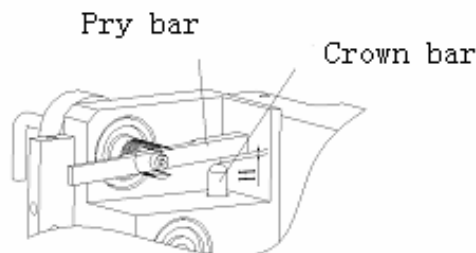
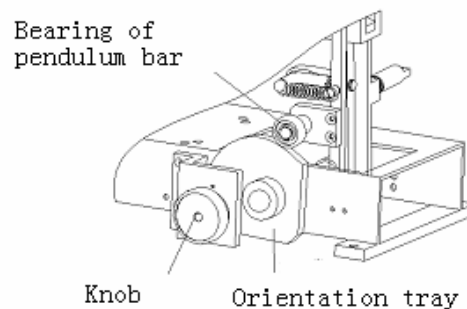

Fig4-7
Fig4-9
1mm bailing strap passes through two strap wheels shown as the Figure and the gap between crown bar and pry bar is 0.3mm (See Fig4-7)
This position is located at front right door. Adjustment of tightness force shown as Fig4-9. Generally knob to adjust strapping force is seized and can't turn. On adjusting strapping force, first forcibly push the knob to the bottom. At this time you can freely turn the knob. The strapping force is decreased while turning knob in clockwise direction and increased in anticlockwise direction. In general, on delivery the position of swing link bearing and orientation tray shown as the left Figure. Generally it is not necessary to adjust their corresponding position.
d. Strap head is split: The reason is that the strapping force is too large. Properly adjust strapping force small (See Fig4-9)
- b. The position of crown bar is too high: If not on strap-withdrawing, the gap between crown bar and pry bar should be 0.3mm (See Fig4-7).
(2) Trouble of pre-strap-feeding mechanism or strap storehouse problem causes small strap storage volume. Find out the trouble and solve it.
- d. Strap head is split: If strap head is split, it will not run smoothly in the strap path and lead to the situation that strap is not fed to the position. The reason is that the strapping force is too large. Therefore properly adjusting strapping force will eliminate this situation (See Fig4-9).
h. Can't strap firmly (See Fig4-6 and Fig4-9):
- ① Strapping adjustment device is at the loose position
- ② Strap-clipping block wears seriously
- ③ Teeth groove in the strap-clipping block is full of strap scraps
- ④ Tension spring of pulling bar is cracked
- ⑤ Push bearing of pendulum bar is cracked
- ⑥ Torsion spring is cracked
- ① Strap-withdrawing time is not enough
- ② The force of strap-withdrawing is too big or too small. Check the gap between strap-withdrawing crown bar and pry bar (See Fig 4-7)
- ③ Resistance of frame is too large
- ④ Motor belt is too loose
- 5.3.1.3 Power light is not on: ① Whether power plug and wiring socket contacts well
② Whether air switch is on OPEN